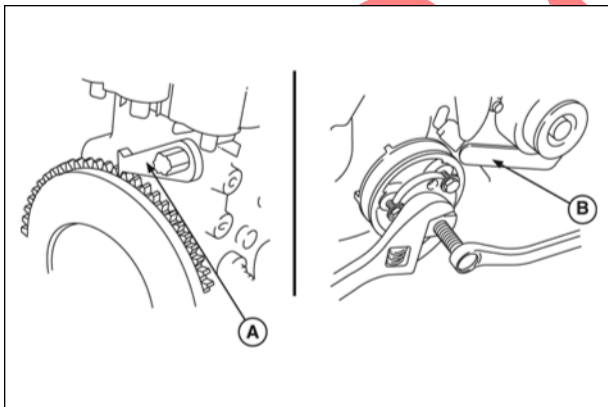

Figure 3
9. Remove bell housing adapter screw (if equipped) and install Flywheel Holder #19418 (A, Figure 3).